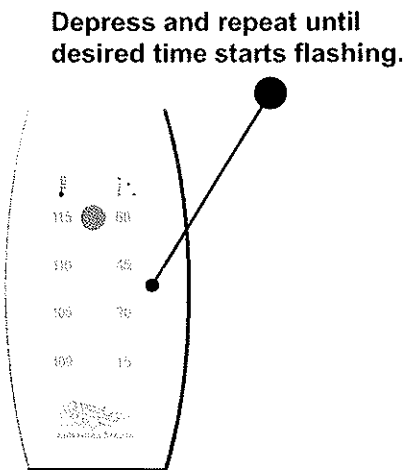

Figure 7
- 3. Changing Session Time.** While the green LED is still flashing (within 4 seconds), momentarily press the "Control Button". Repeat until the green LED associated with your desired time starts flashing. Once the desired time is flashing, wait 4 seconds and the time will be accepted by the control. (See Figure 7.)